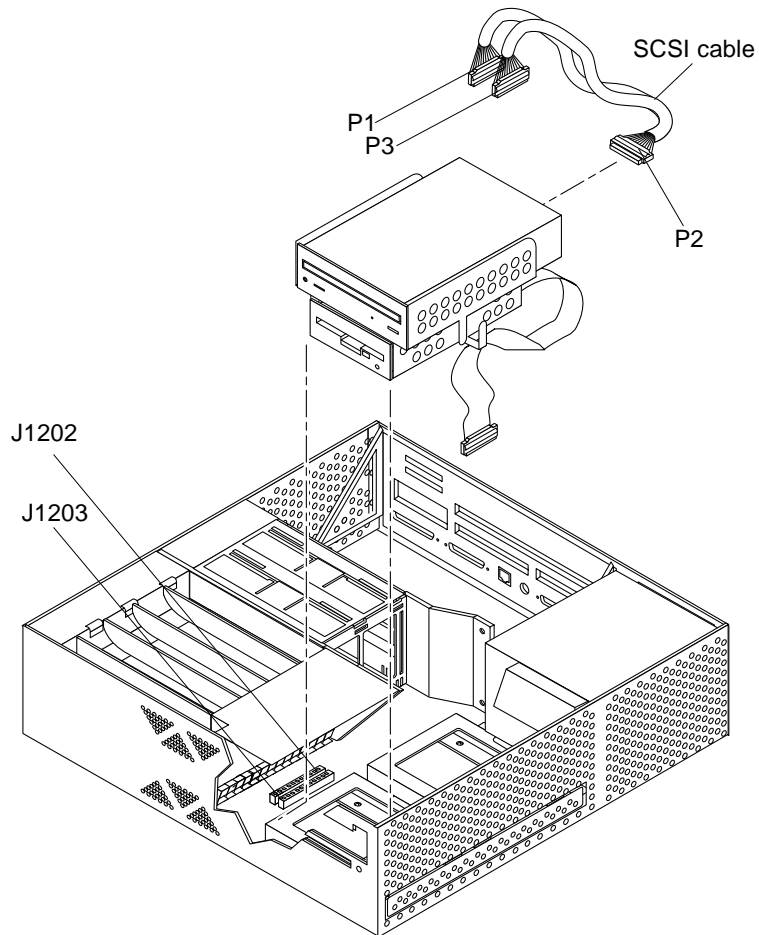

FIGURE 8-3 Removing and Replacing the SCSI Cable Assembly
4. Disconnect the following (FIGURE 8-3):
1. Replace the SCSI cable assembly as follows (FIGURE 8-3):